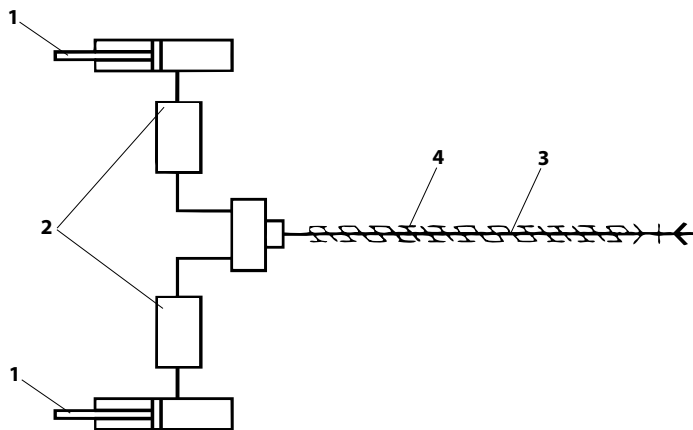

Fig. 11
4.5.1 SEEDER COUPLING HYDRAULIC SYSTEM (FIG. 11)
KEY Fig. 11 (Hydraulic diagram for coupling the seeder to an hydraulic cylinder)